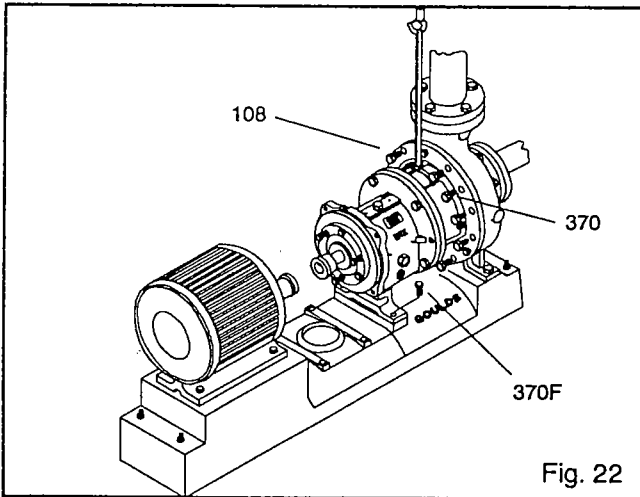

Fig. 22
8. Place sling from hoist through frame adapter (108) or frame (228A) for STX (Fig. 22).
10. Remove casing bolts (370).